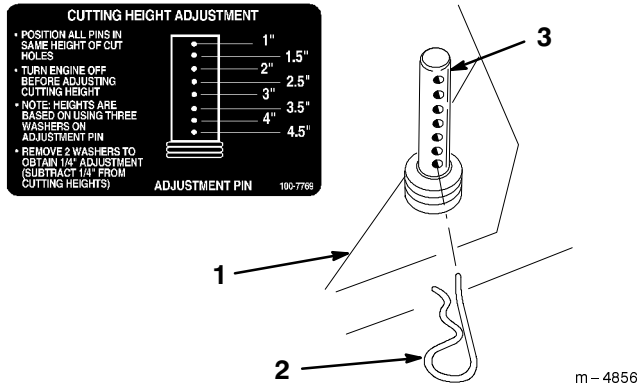

Figure 35
12. Select hole in height-of-cut post corresponding to the height-of-cut desired. Lift on side and front to align holes and hairpin cotter (Fig. 35).